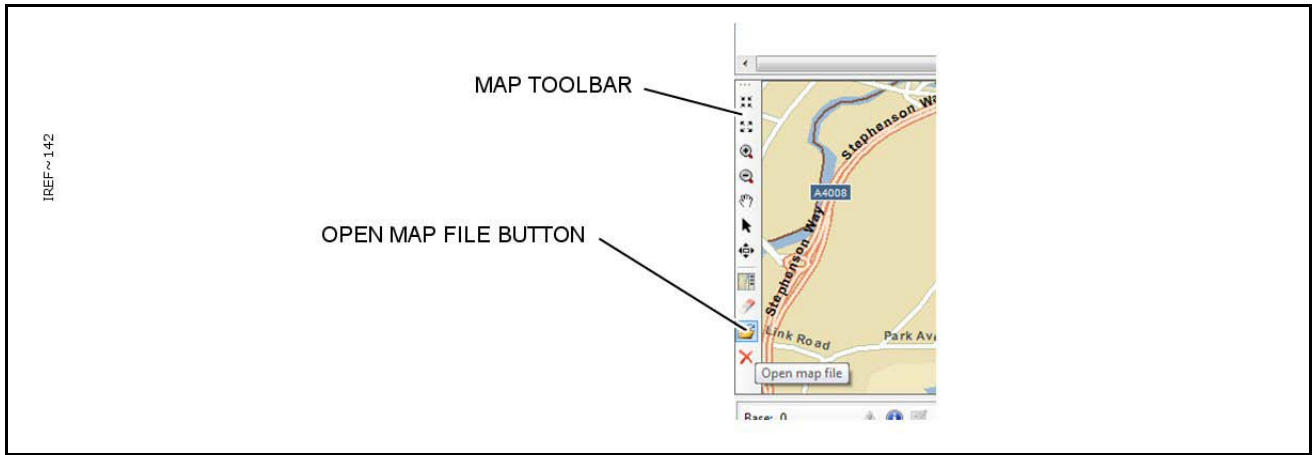

Figure 28 'Open Map File' Button
- 14 Although the network is now ready for use, it is useful to take advantage of one or both of the map panels as these can provide a good deal of information at a glance. Open a map panel if it isn't already and press the 'Open map file' button on the toolbar (see Figure 28).